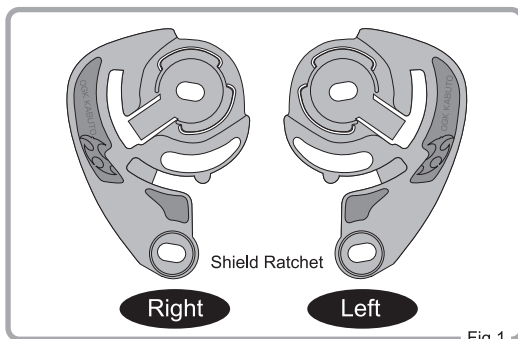

Fig.1
1. First, check the side of the Shield Ratchet as shown in Fig.1.